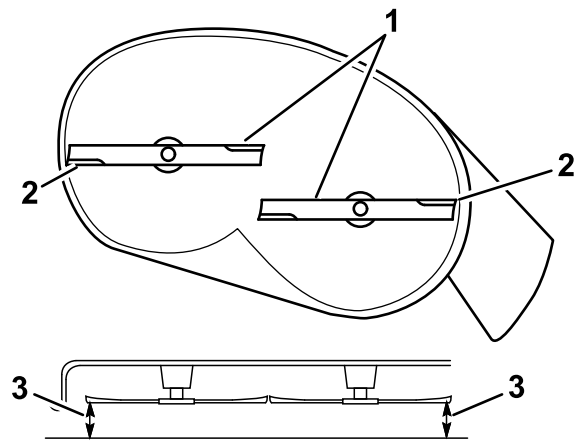

Figure 66
5. Measure between the outside cutting edges and the flat surface (Figure 66).